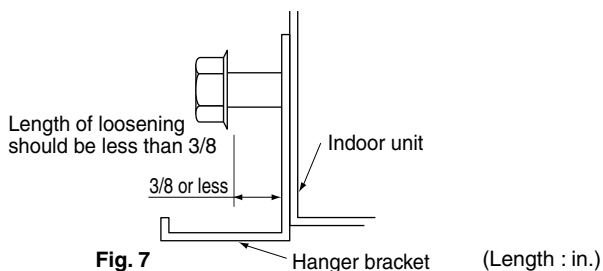

Fig. 7
- Loosen the 2 bolts (M8) used to attach the hanger brackets which are on each side (4 places left and right) to within 3/8 in.. (Refer to Fig. 7, 8)